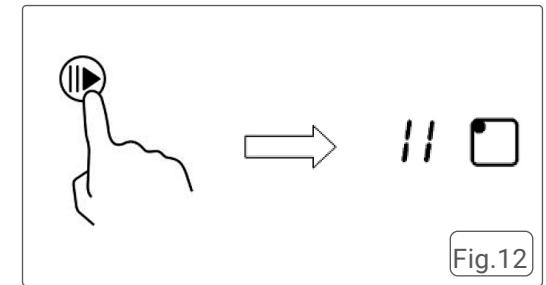

Fig.12
- 1. Touch the Pause control . All heating zones will stop working, and all zone indicators will display "||", indicating that the hob is paused. Fig.12